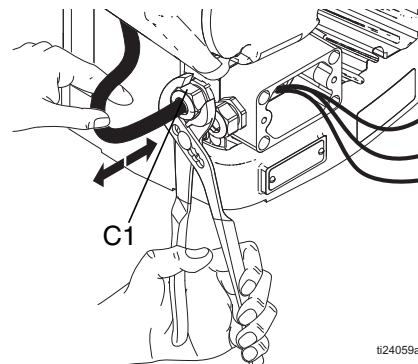

FIG. 18: Loosen Cord Grip
8. Use an adjustable wrench to tighten the fan cord grip (C1). See FIG. 18, page 15.